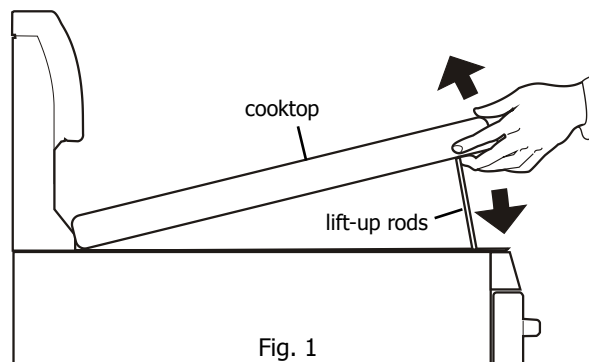

Fig. 1
2. Grasp the sides of the cooktop and then lift from the front (See Fig. 1).